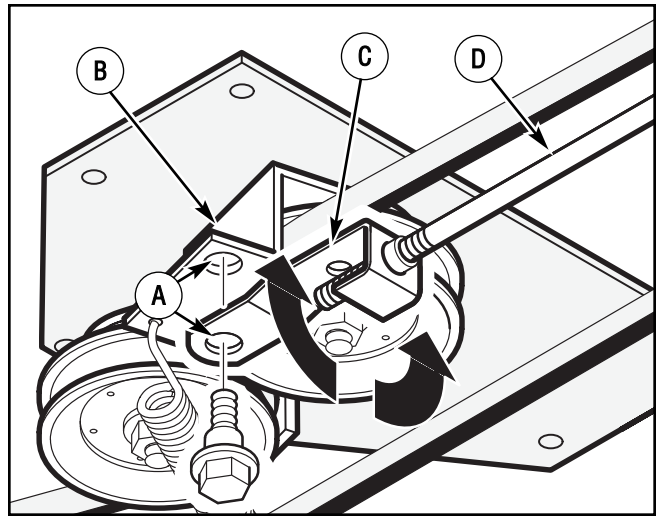

Figure 24: Aligning clutch link
2. Disconnect the **clutch link** from the **idler arm** (Figure 24).
4. Rotate the **clutch link** until the mounting hole in the **clutch link** is aligned with the hole in the **idler arm** as shown in Figure 24.
5. Connect the **clutch link** to the **idler arm** (Figure 24).